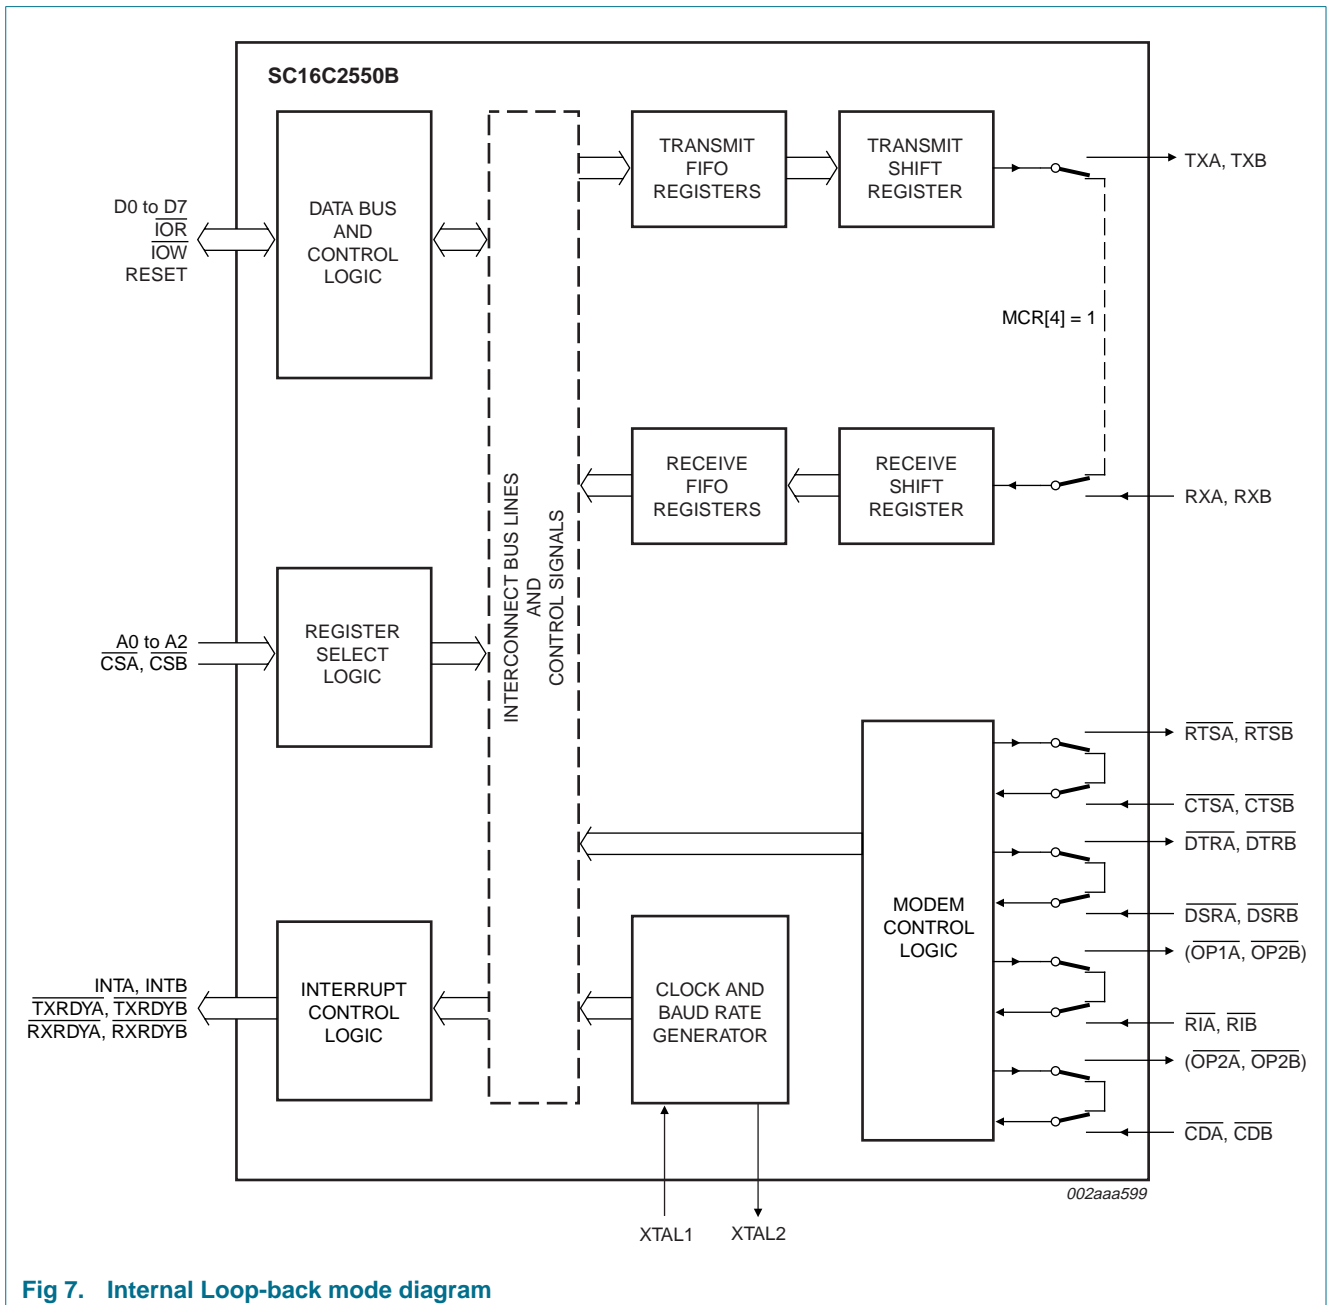

Fig 7. Internal Loop-back mode diagram
The internal loop-back capability allows on-board diagnostics. In the Loop-back mode, the normal modem interface pins are disconnected and reconfigured for loop-back internally (see Figure 7). MCR[0:3] register bits are used for controlling loop-back diagnostic testing. In the Loop-back mode, the transmitter output (TX) and the receiver input (RX) are disconnected from their associated interface pins, and instead are connected together internally. The $\overline{\text{CTS}}$, $\overline{\text{DSR}}$, $\overline{\text{CD}}$, and $\overline{\text{RI}}$ are disconnected from their normal modem control inputs pins, and instead are connected internally to $\overline{\text{RTS}}$, $\overline{\text{DTR}}$, MCR[3] (OP2) and MCR[2] (OP1). Loop-back test data is entered into the transmit holding register via the user data bus interface, D0 through D7. The transmit UART serializes the data and passes the serial data to the receive UART via the internal loop-back connection. The